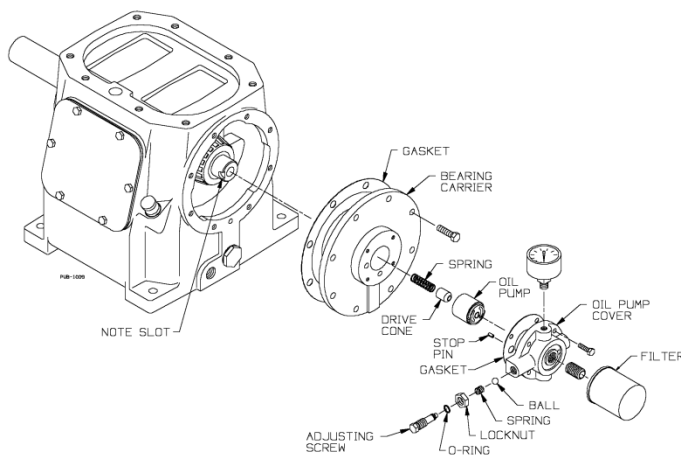

Figure 18 – Oil Pump
- b. Referring to Figure 18 for the proper orientation, carefully press the inboard bearing cup into the crankcase until it is flush with the outer surface of the crankcase.